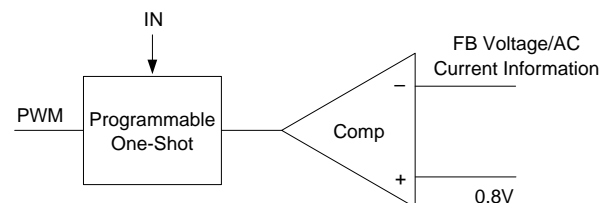

Figure 2. Simplified Control Schematic of AOZ2151QI-01
The control algorithm of AOZ2151QI-01 is constant-on-time PWM control with input feed-forward. The simplified control schematic is shown in Figure 2. The high-side switch on-time is determined solely by a one-shot whose pulse width is inversely proportional to input voltage (IN). The one-shot is triggered when the internal 0.8V is higher than the combined information of FB voltage and the AC current information of inductor, which is processed and obtained through the sensed lower-side MOSFET current once it turns-on. The added AC current information can help the stability of constant-on time control even with pure ceramic output capacitors, which have very low ESR. The AC current information has no DC offset, which is fundamentally different from other V^2 constant-on time control schemes.